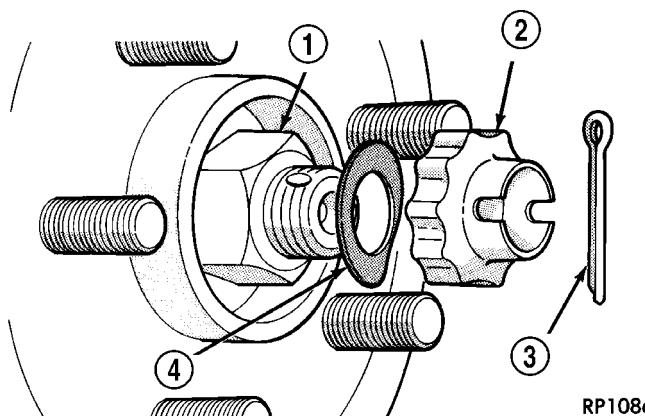

Fig. 26 Halfshaft Retaining Hardware
(7) Clean all foreign matter from threads of half-shaft outer stub axle. Install washer and hub nut onto the threads of the stub axle and tighten nut to 244 N·m (180 ft. lbs.) (Fig. 26).
(8) Install spring washer, nut lock, and cotter pin (Fig. 26).